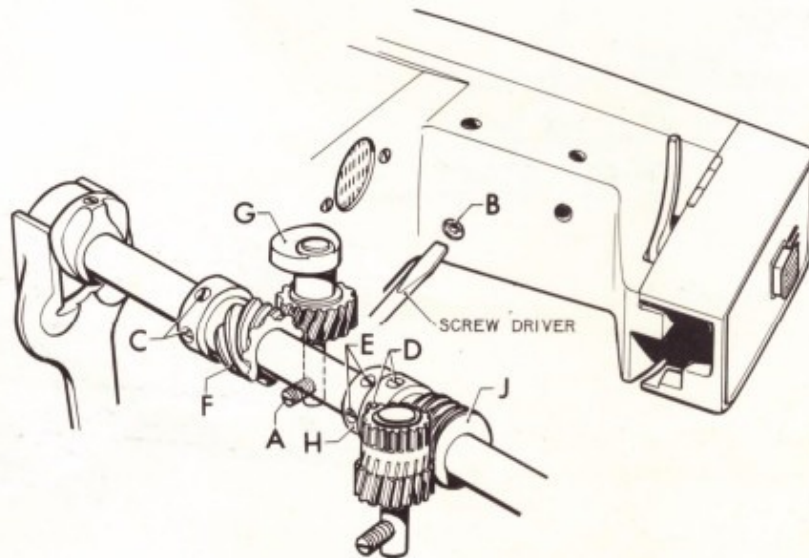

Fig. 17
2. In case needle swings in fabric on its way down, loosen screws (C) Fig. 17 (two screws) and holding zigzag drive gear with a screwdriver held on screw (C) turn hand wheel away from you.
3. In case needle swings on its way upward, turn hand wheel toward you, holding screw (C) with a screwdriver.
4. Tighten screw (C) securely, making certain there is no excess backlash or too tight mesh between zigzag drive gear (F) and cam gear (G).
5. In case the sidewise movement on the upward way of needle is more than 0.8 millimeter, loosen screw (D) Fig. 17 and holding worm gear with a screwdriver held in one of the screws, turn hand wheel toward you.
7. Tighten screw (D) Fig. 17 making sure that worm gear keeps contact with the side of collar (H) Fig. 17.